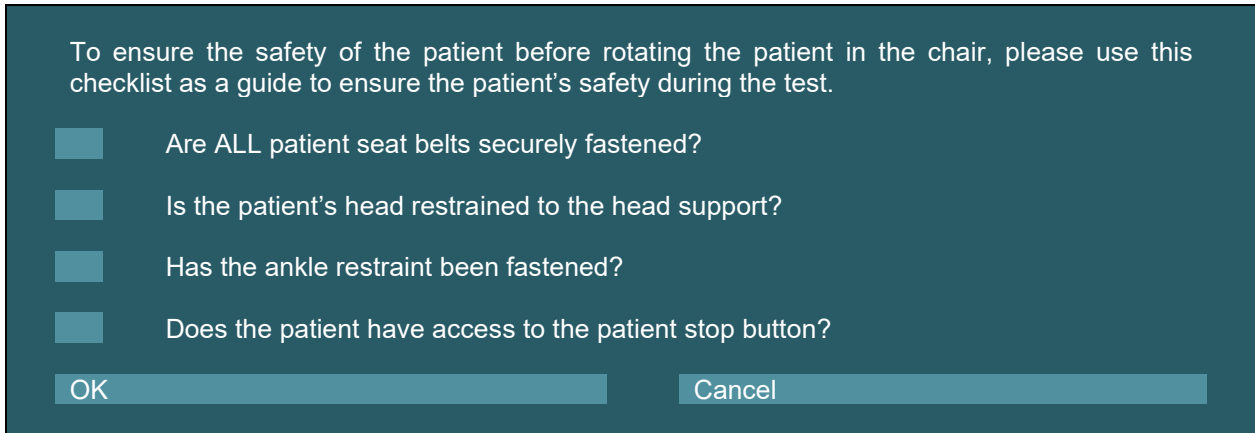

Figure 3.5-1: Safety checklist for Orion Auto-Traverse/Comprehensive chairs
7. Before starting any test involving the Orion Auto-Traverse/Comprehensive chairs, a set of safety checks (Figure 3.5-1) will appear if the software to confirm safety precautions have been taken. Each box in the safety checklist must be checked before testing can begin.